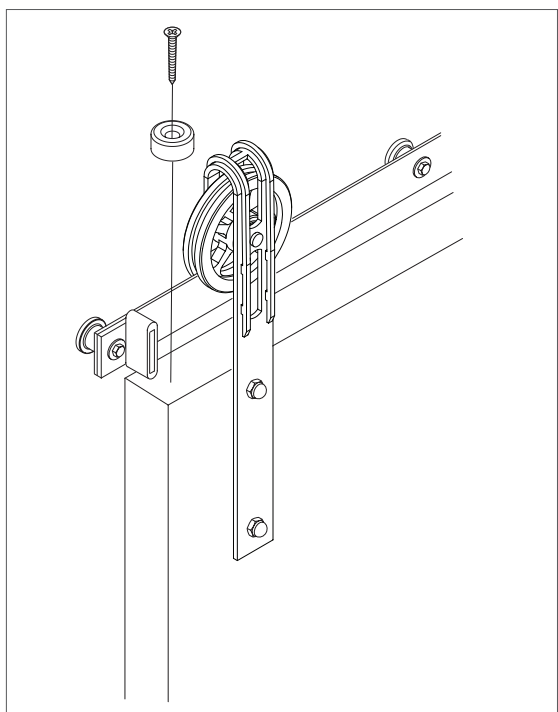

Figure 10
20. Place the anti-jump block on the top of the door (Figure 10). Using a drill with a phillips bit, install the the block with the 1" phillips screw (provided).